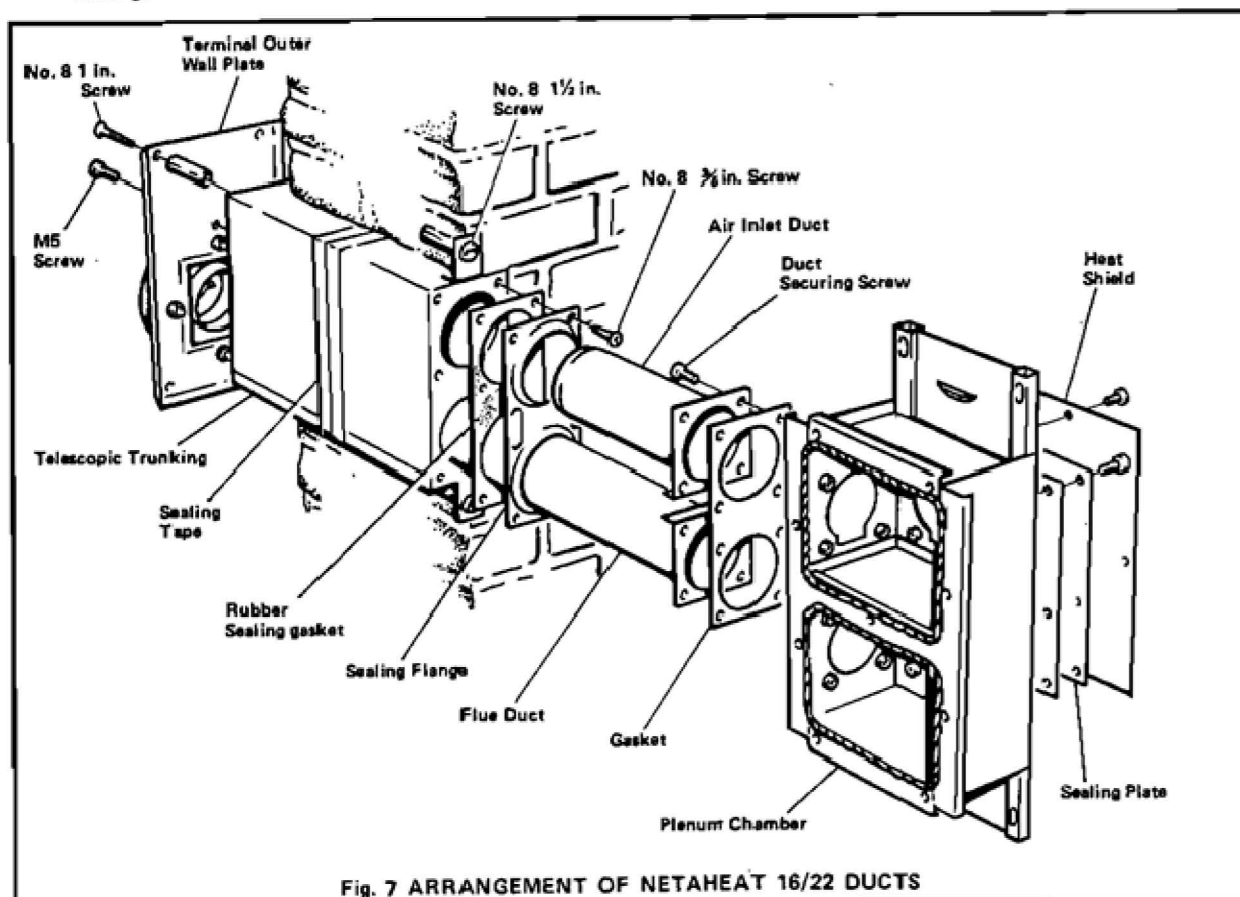

Fig. 7 ARRANGEMENT OF NETAHEAT 16/22 DUCTS
3.B. Potterton Netaheat 16-22 only — See Fig.7
9. Secure the duct sealing flange and rubber gasket see Fig.7, to the telescopic trunking using the six screws (Accessories pack item D).